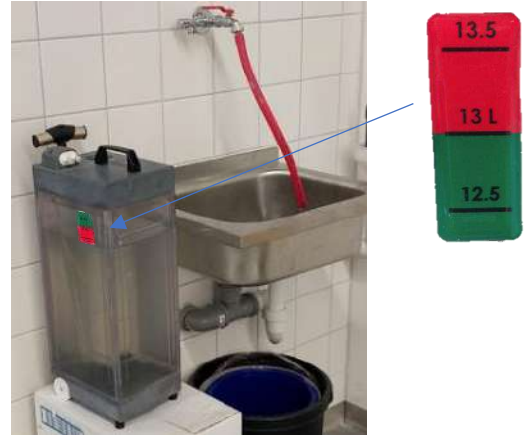

Figure 12-5
Step 8: Fill the tank with fresh Reverse Osmosis water (or purified water complying with ISO3696 (1987) Grade 2, or ASTM (D1193-91) Type II, or NCCLS (1988) Type II or equivalent) at room temperature (15-25°C). Use the fill line marking on the reservoir. **See Figure 12-5.**